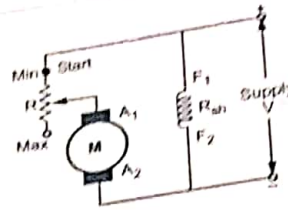

Fig. Q.51.1 Rheostatic control
As the supply voltage is normally constant, the voltage across the armature can be controlled by adding a variable resistance in series with the armature as shown in the Fig. Q.51.1.
- The relationship between speed and voltage across the armature is shown in the Fig. Q.51.1.